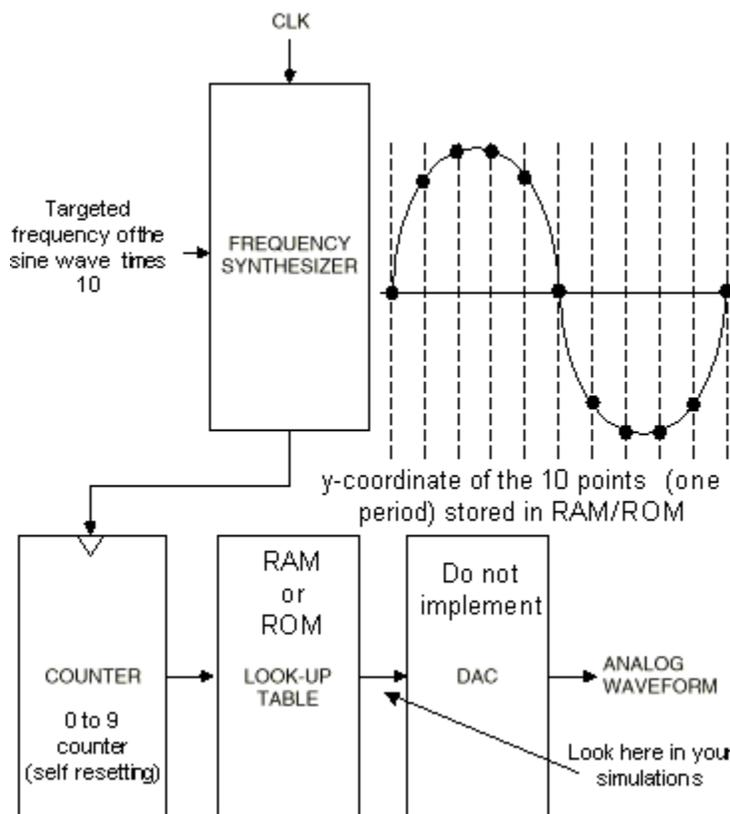

Figure 9: Analog Waveform Generator
If an analog output is required, you can use the unit that you built in exercise 2 to control a counter, as shown in Figure 9. The output of this counter is used to access a look-up table, which provides data to a DAC (which you won't implement). RAM or ROM can be used to implement the look-up table (LUT) internally. As a result, multiple wave-shapes (sine, cosine, triangular) can be supported by reconfiguring the RAM/ROM.
Exercise 4 (Bonus): Implement in VHDL the Analog Waveform Generator shown in Figure 9. Make sure you show all your simulations.
1. You should be able to demonstrate that your Analog Waveform Generator can generate a sine wave of the appropriate frequency by loading the RAM/ROM with the proper values. RAM/ROM LPM modules can be loaded with default values upon power up through the use of *.mif* files. Look at the details of Figure 9. You will need to draw a sine wave and determine the y-coordinates of the 10 points approximating one period of the sine wave. For simplicity, use integer values only. No marks will be deducted for weird sine waves! If you are asked for a sine wave of frequency 10 MHz, you should set the input of the frequency synthesizer to 100 MHz (i.e. 10 times the targeted frequency of the sine wave. This is so because each period of the sine wave is approximated with 10 points).